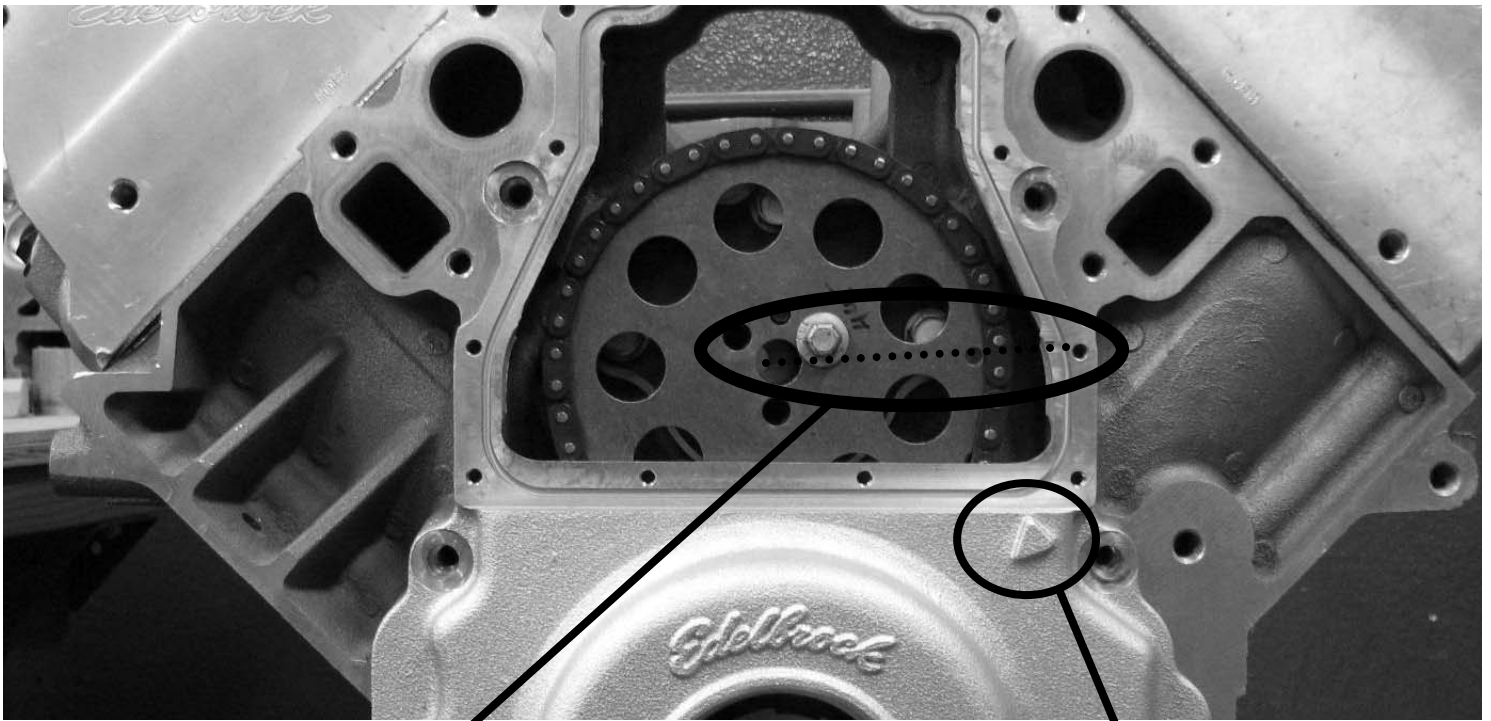

FIGURE 1
2. Rotate the engine by hand until the timing mark on the cam gear is at the 3 o'clock position. A notch has been machined into the edge of the timing cover to illustrate this position. A straight edge held against the gear should pass through the center of the camshaft, the timing mark and the notch on the timing cover. (See Figure 1)
3. It is recommended that you mark your harmonic balancer so that you can verify its position later. An indicator has been cast into the cover for this purpose. (See Figure 1)